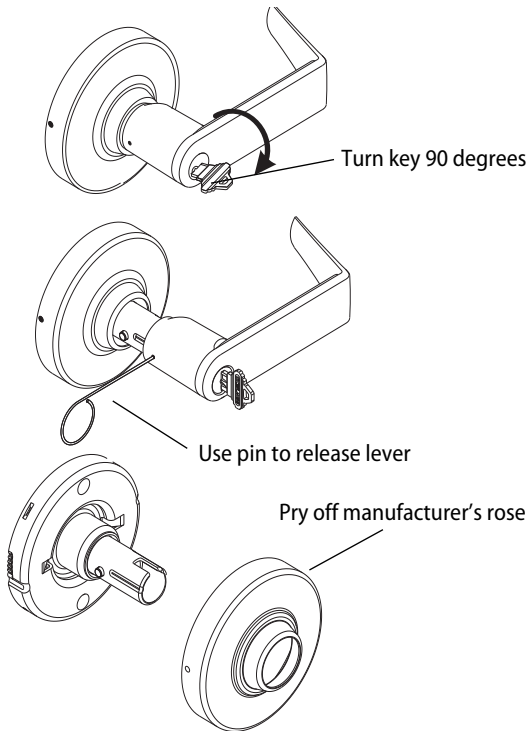

Figure 2 Remove the outside lever and rose
- 1 The OMEM-C comes with an outside rose to replace the manufacturer's outside rose. The lever handle must be disassembled to fit the smaller rose and mount escutcheon on to the outside lever. See Figure 2.